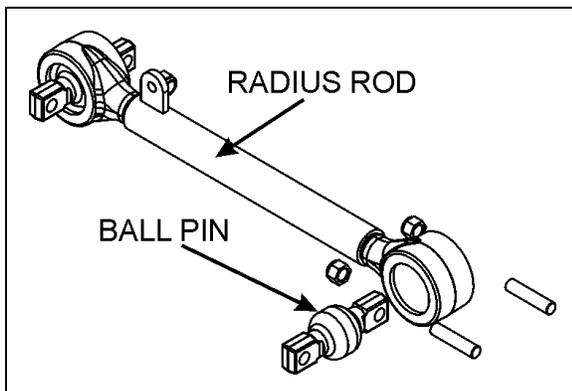

FIGURE 44: TYPICAL RADIUS ROD SETUP
4. Remove nuts and washers from shock absorbers on upper and lower mounting pins, taking care to identify the inner and outer washers to ease reinstallation. Refer to figure 44 for details.